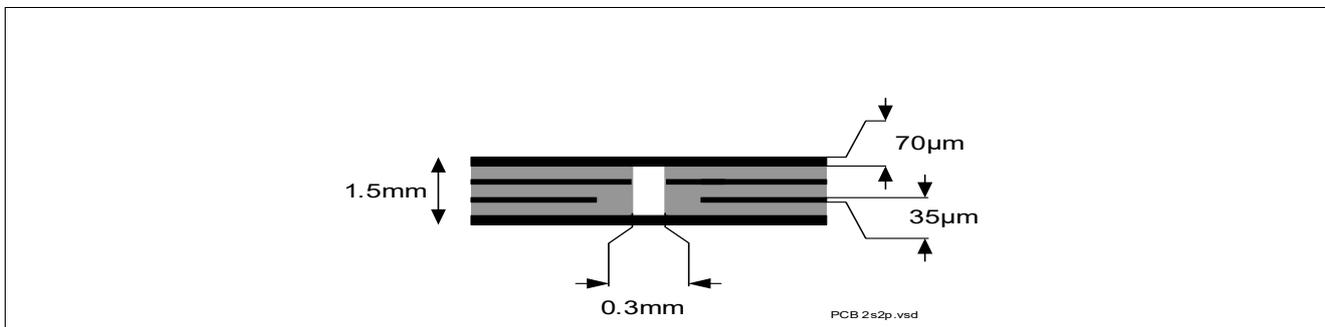

Figure 4 2s2p PCB Cross-Section
2) Specified R_{thJA} value is according to JEDEC JESD51-2,-5,-7 at natural convection on FR4 2s2p board with 1 W power dissipation equally dissipated for both channel at $T_A=105^\circ\text{C}$; The product (chip + package) was simulated on a 76.4 x 114.3 x 1.5 mm board with 2 inner copper layers (2 x 70 μm Cu, 2 x 35 μm Cu). Where applicable, a thermal via array under the exposed pad contacts the first inner copper layer. Please refer to Figure 4.